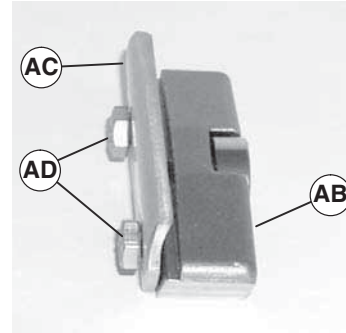

Figure 12
- Loosely attach clamp plate (Figure 12, item AC) on mounting block (AB) with two screws (AD). Do not tighten screws.